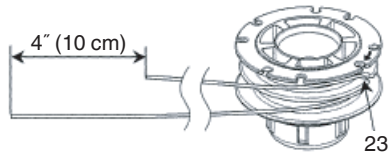

Fig. 27
- (2) After removing the case, take out the reel and discard the remaining line.
- (3) Fold the new nylon line unevenly in half as shown in picture. Hook the U-shaped end of the nylon line into the groove (23) on the center partition of the reel. Wind both halves of the line on the reel in the same direction, keeping each half of the line on its own side of the partition. (Fig. 27)